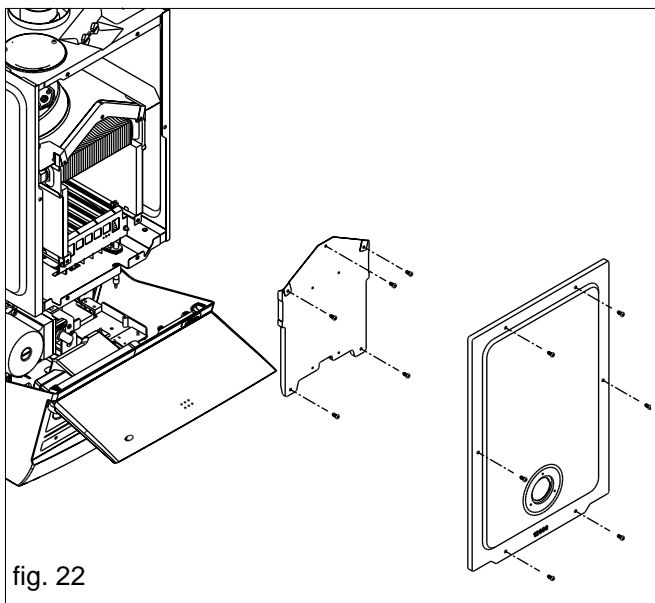

fig. 22
6.15 BURNER, INJECTORS, AND SPARK/SENSE ELECTRODE FIG. 22 & 22a